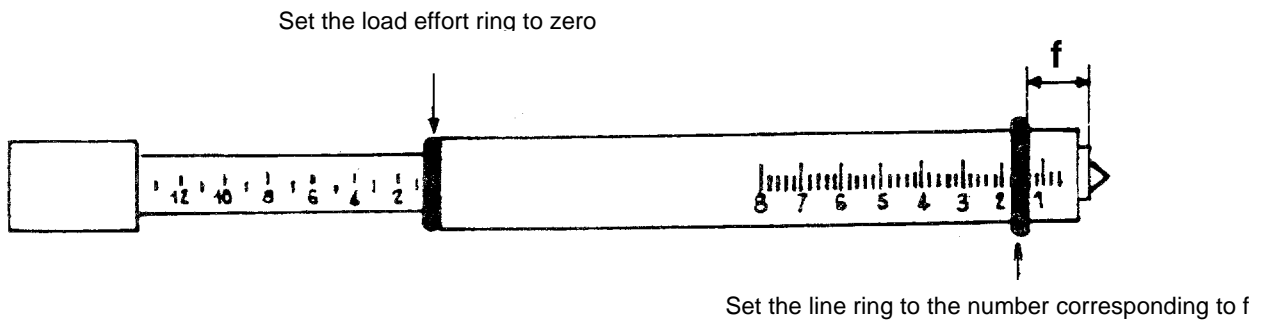

Fig 3
- To set the tensiometer (see figure 3) : for example lower ring on 12 mm, upper ring on OdaN (or kgf depending on the models)